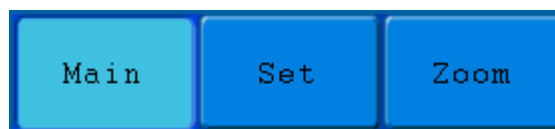

Figure 5-14 Time Base Mode Menu
3. **HORIZ MENU** button: with this button pushed down, the screen shows the operating menu (see *Figure 5-14*).